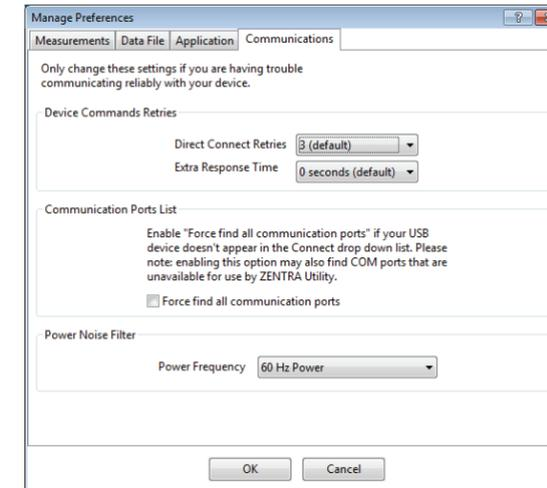

Figure 29 Communications tab
• Communications Tab (Figure 29):